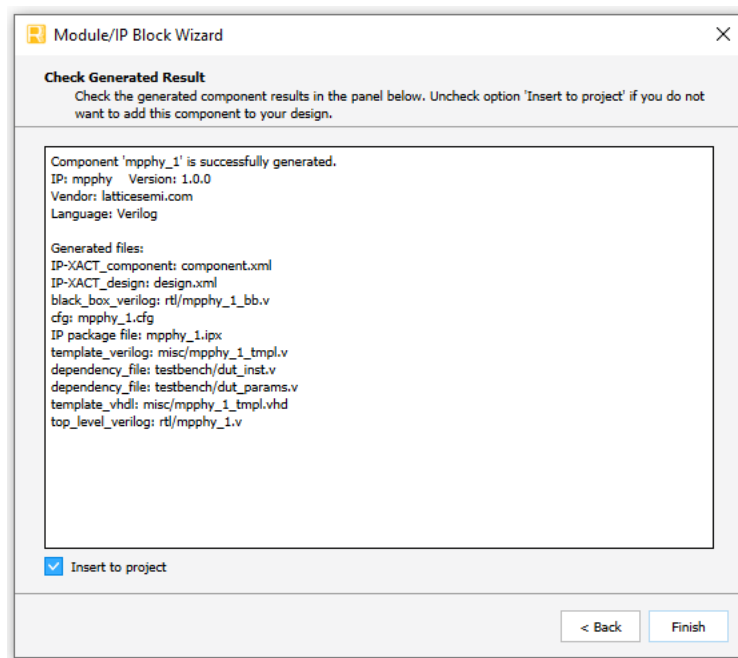

Figure 3.3. Check Generating Result
- Click **Generate**. This shows the design block messages and results as shown in Figure 3.3.